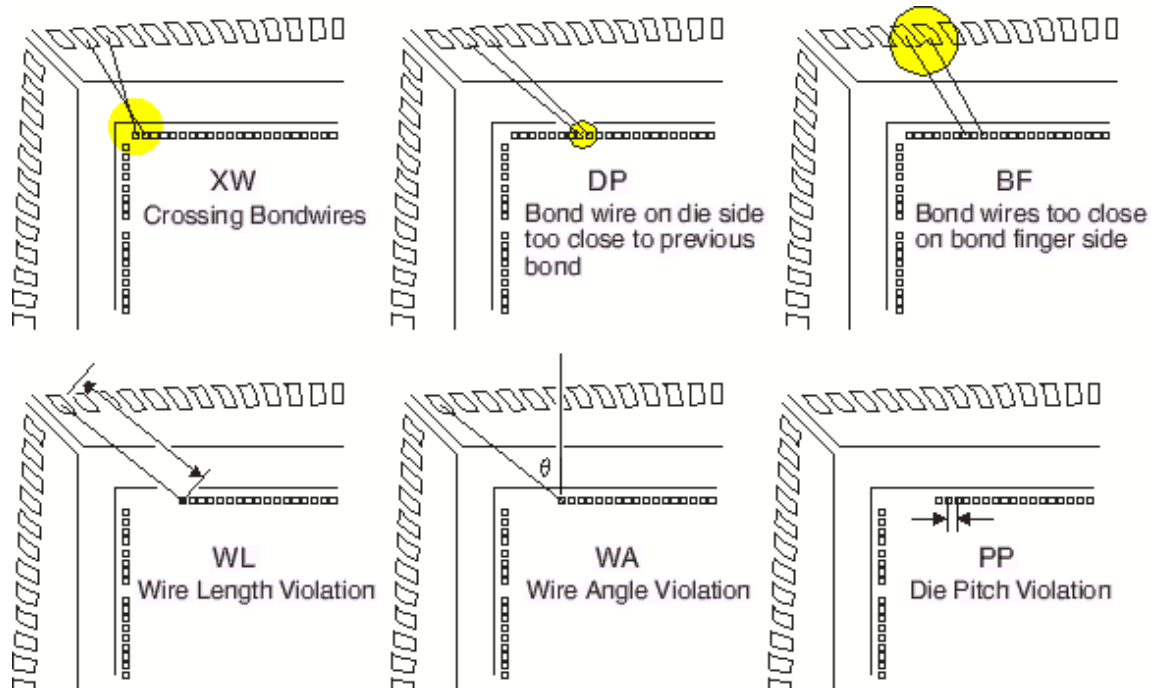

Fig. 9: Mistakes to avoid when we are creating a bonding diagram
9. Crossing of bonding wires is not allowed (figure 9).
19. Crossing of bonding wires is not allowed (figure 9).